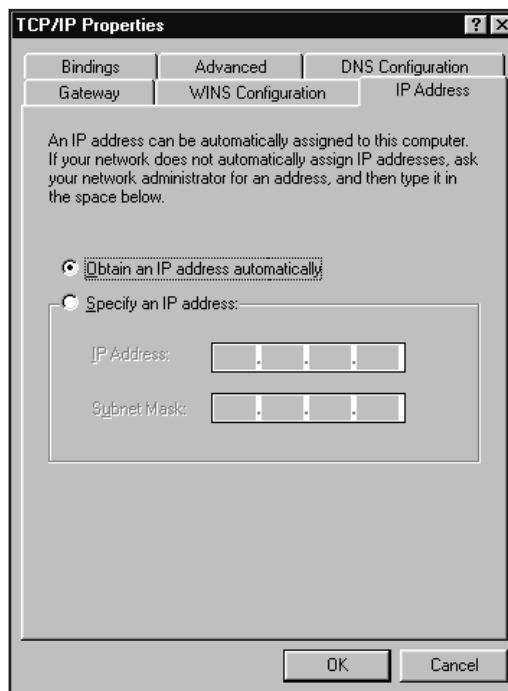

Figure 194 Set TCP/IP Properties
3. Re-select the Configuration notebook tab in the Network Setting applet and highlight the TCP/IP entry. Press the Properties button to display the TCP/IP dialog box (Figure 194).